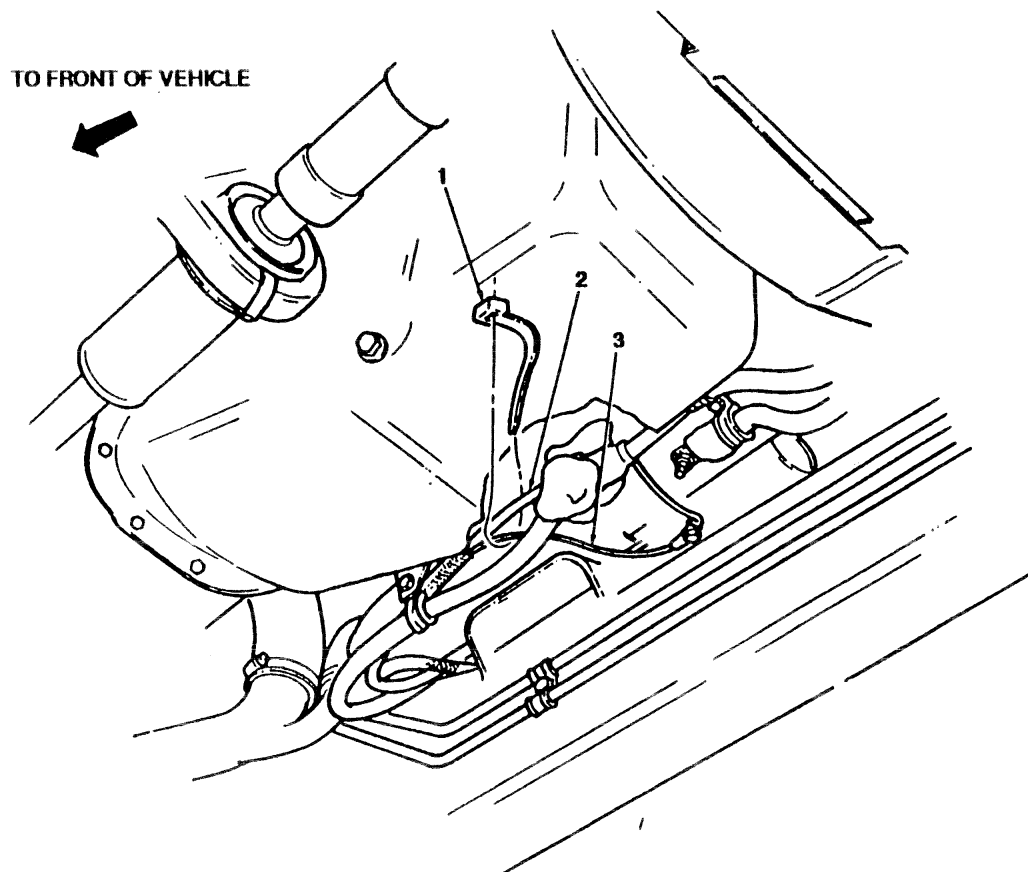

FIGURE 3-9
Secure starter wire 74A (3) to starter wire 81A (2) with NSN 5975-00-074-2072 tiedown strap (1). (see figure 3-9)